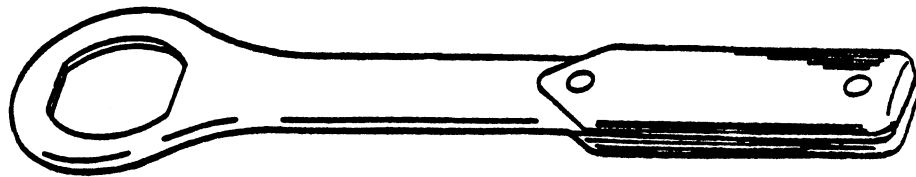

Fig 6-2. Breech wrench (CM8983).
d. Breech wrench (CM8983). The breech wrench (CM8983) (fig 6-2) is used to remove the breech plug.